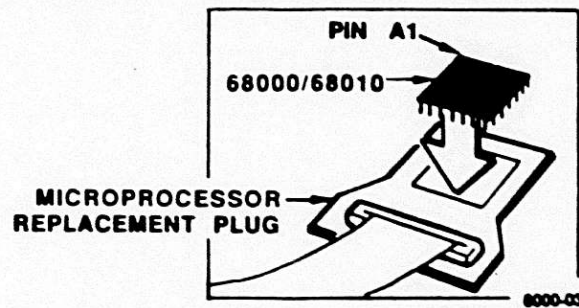

Figure 2a. Connecting Option 04 to the system under test (BO40100 and up).
4. Put the 68000 into the top of the Option 04 plug. Make sure that pin A1 on the pin grid array, plug, and test system all match. Refer to Figure 2a or 2, depending on the serial number of your personality module.